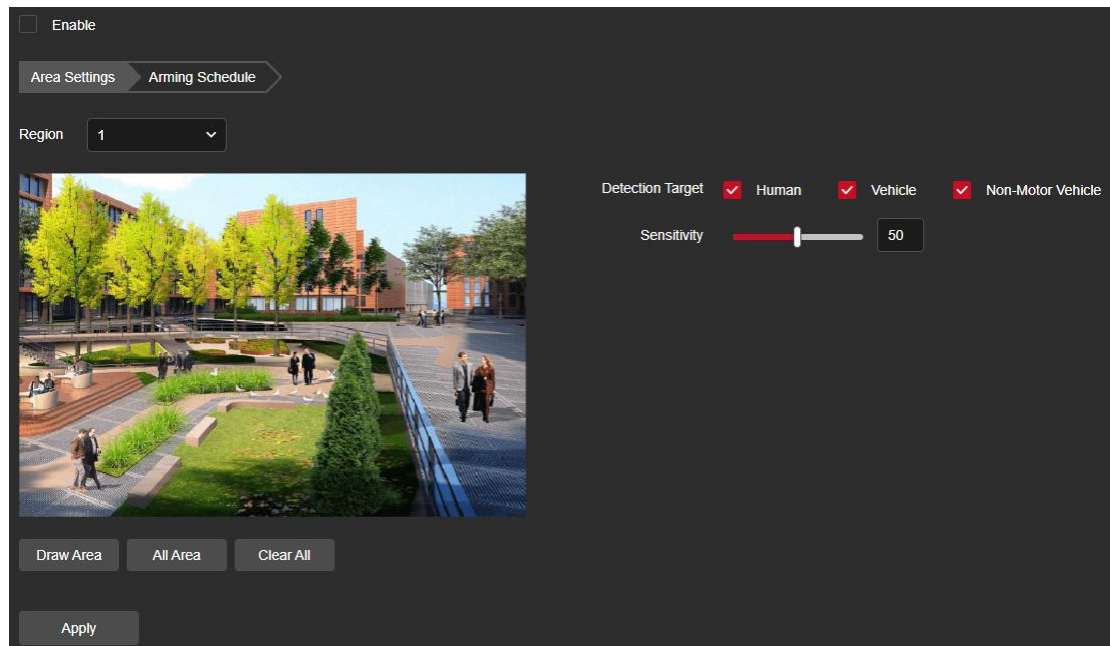

Figure 8-6-59
Step 1: On the main interface, click "Configuration → Event → Smart Event → Video Structured Analytics" to enter the video structured analytics configuration interface, as shown in Figure 8-6-59.